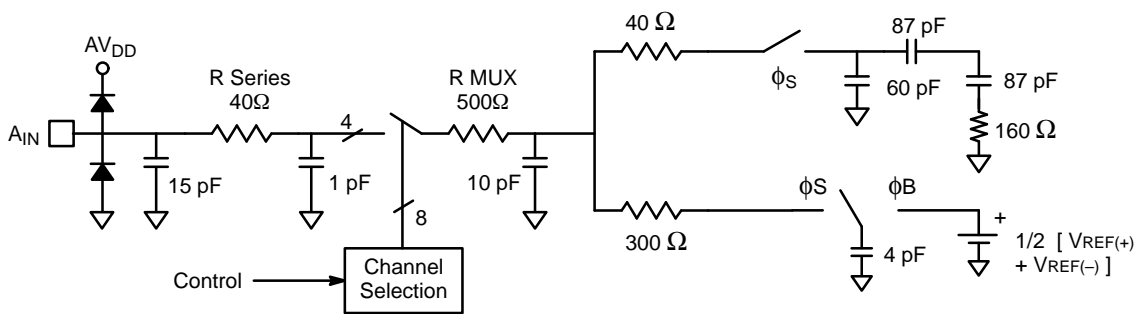

Figure 9. Analog Input Equivalent Circuit
- ³ See V_{IN} input equivalent circuit (see Figure 9.).
The MP8799's performance is optimized by using analog input circuitry that is capable of driving the A_{IN} input. Figure 9. shows the equivalent circuit for A_{IN} .